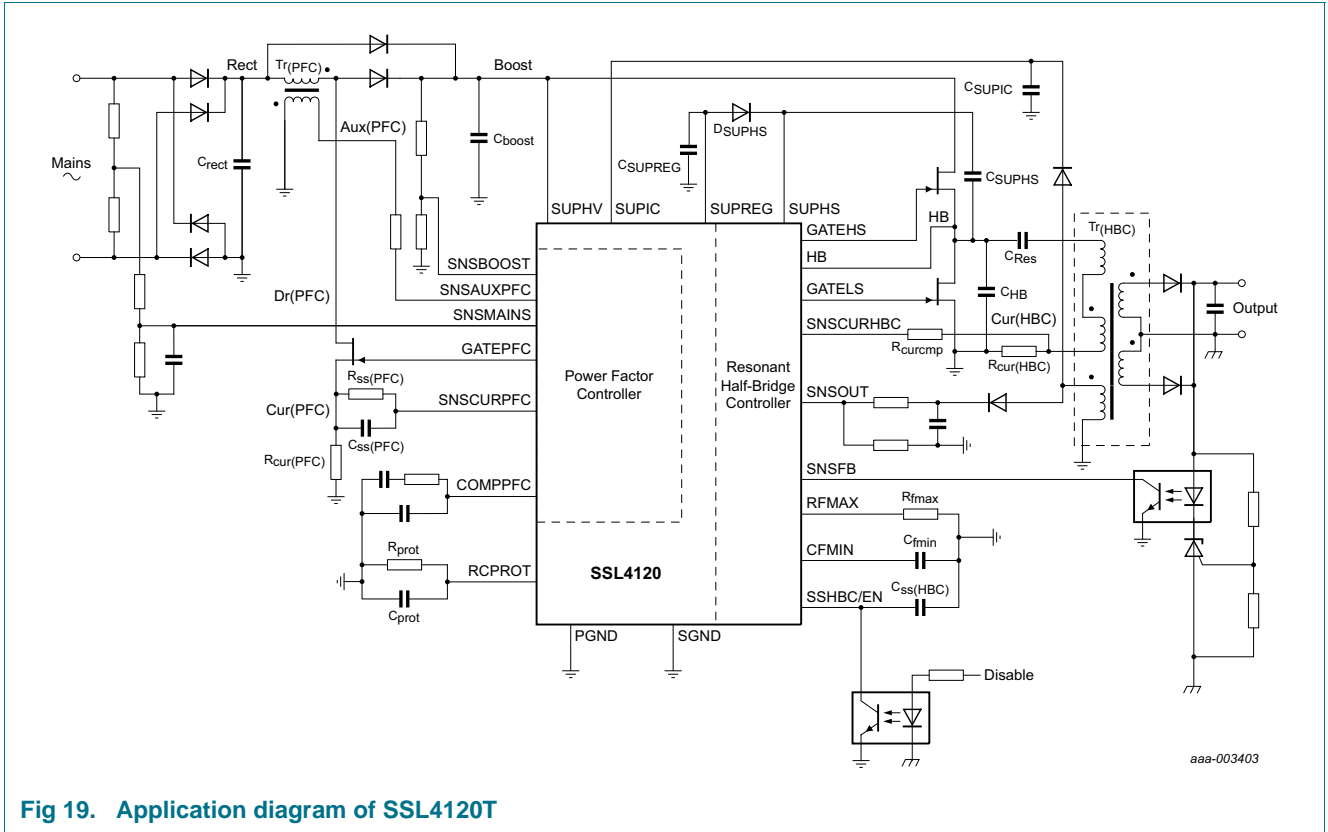

Fig 19. Application diagram of SSL4120T
- [3] For a typical application with a compensation network on pin COMPPFC, like the example in Figure 19.